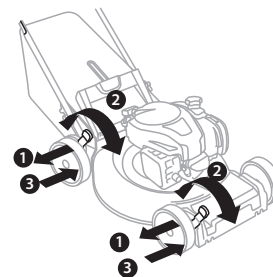

Fig.9
2. To change the cutting height, squeeze the height adjuster lever toward the wheel (1, Fig. 9).
3. Move the lever and wheel up or down to the desired position (2, Fig. 9), release the lever to lock the wheel in position (3, Fig. 9). Be sure the rear wheels and front wheels are at the same height.